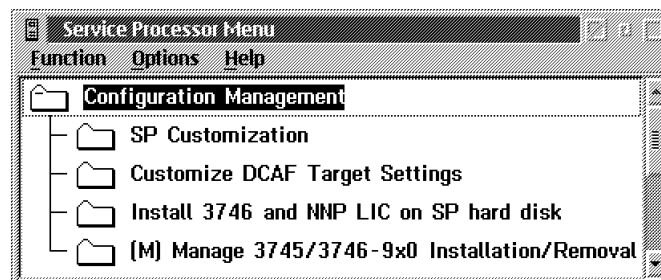

Figure 2-11. Service Processor Configuration Management Functions
All maintenance functions are identified by an **(M)** preceding the text (example: see Figure 2-11 function "(M) Manage 3745/3746-900 Installation/Removal").